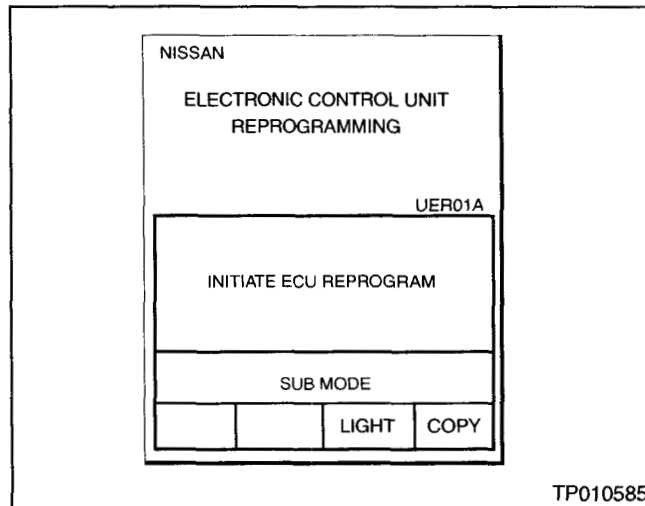

Figure 6
32. **Make sure the DLC-II cable is firmly plugged into the vehicle harness** (see **CAUTION** below). Turn "**ON**" the ignition switch (do not start the engine). CONSULT-II will turn on automatically (see Figure 6).